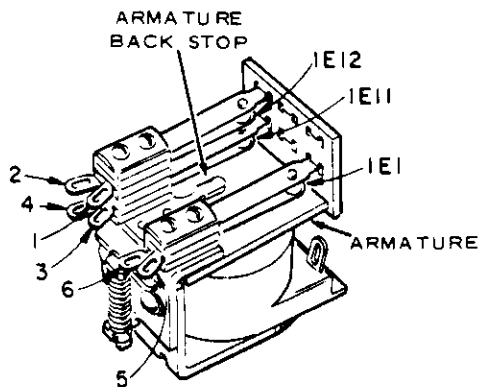

Figure 2. Trip Relay Detail.
a. Trip Relay Contacts (refer to Figure 2)